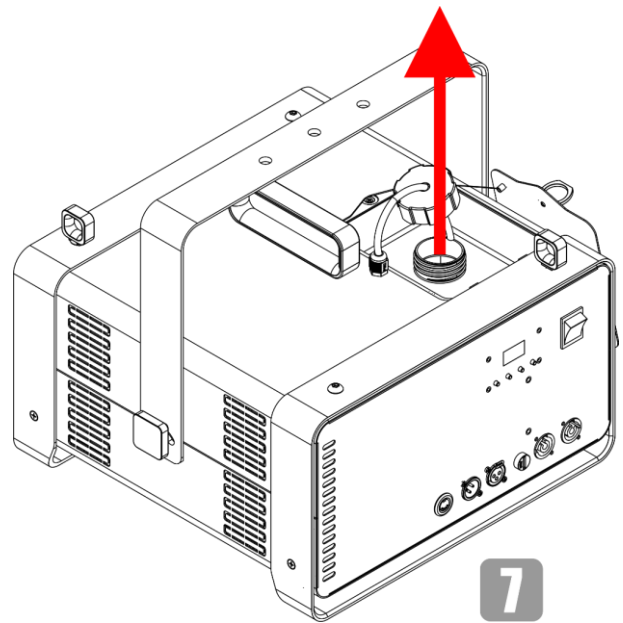

Fig. 14
- 07) Take out the fluid tank, as shown in Fig. 14.